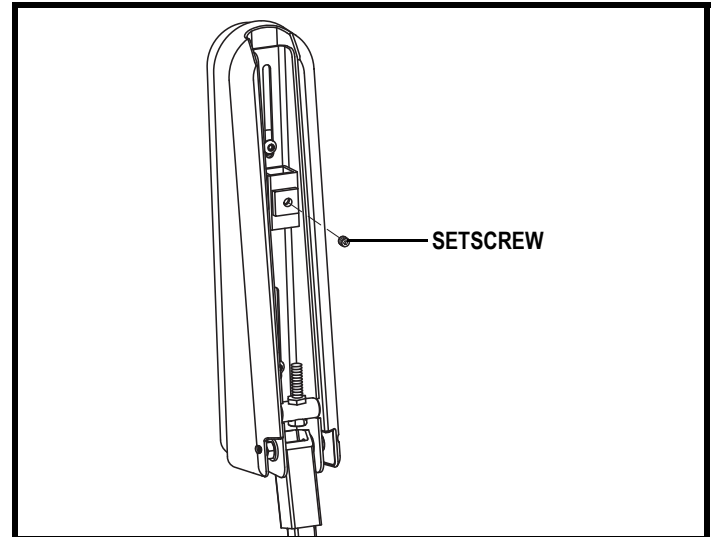

Figure 18. Underside of Armrest
2. Loosen the setscrew on the controller bracket. See **figure 18**.
5. Flip up the armrest and loosen the setscrew. See **figure 18**.